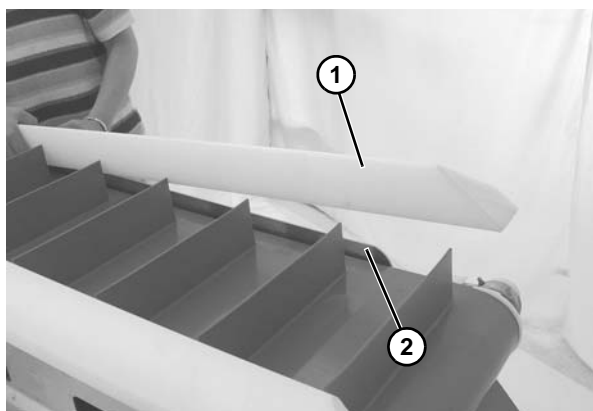

Figure 30
1. Position the guide (**Figure 30, item 1**) so that the flat surface is facing the belt and then slide the guide onto the frame rail (**Figure 30, item 2**).